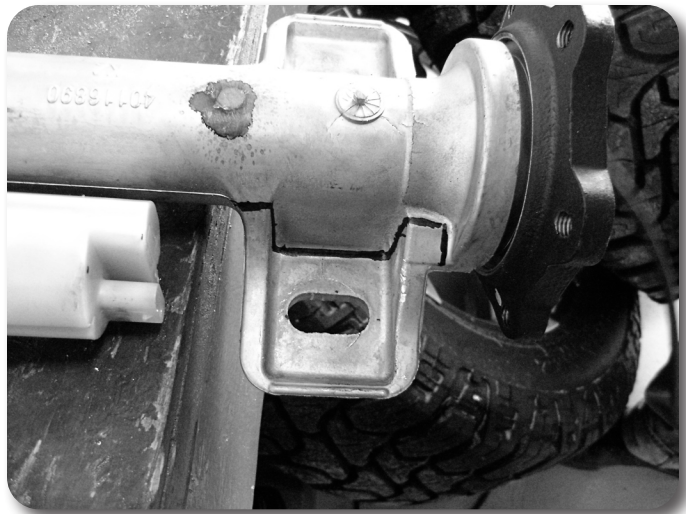
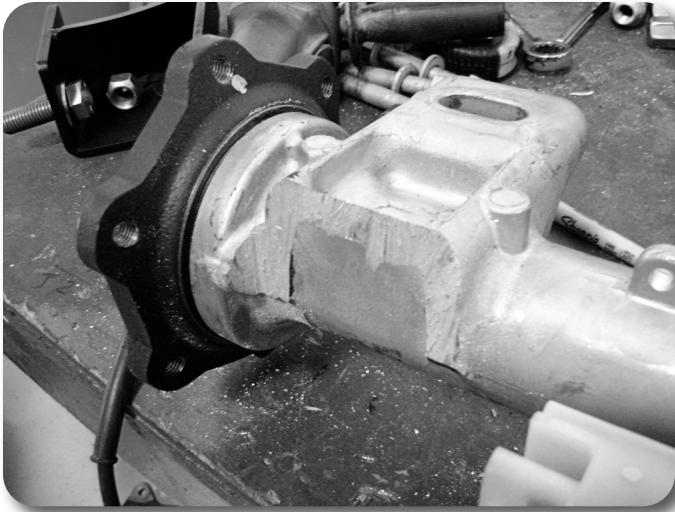

Figure 19
Figure 20
32. The differential housing needs to be modified to clear the electronic steering rack in the relocated position. Mark the passenger side mount as shown in Figure 19 and using a reciprocating saw make 2 cuts perpendicular to the mounting surface. Figure 20